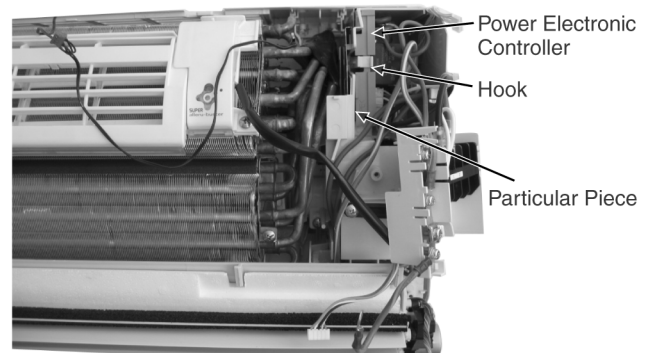

Fig. 6
- Release the hook that hold the Particular Piece and pull out the Power Electronic Controller. (Fig. 6)